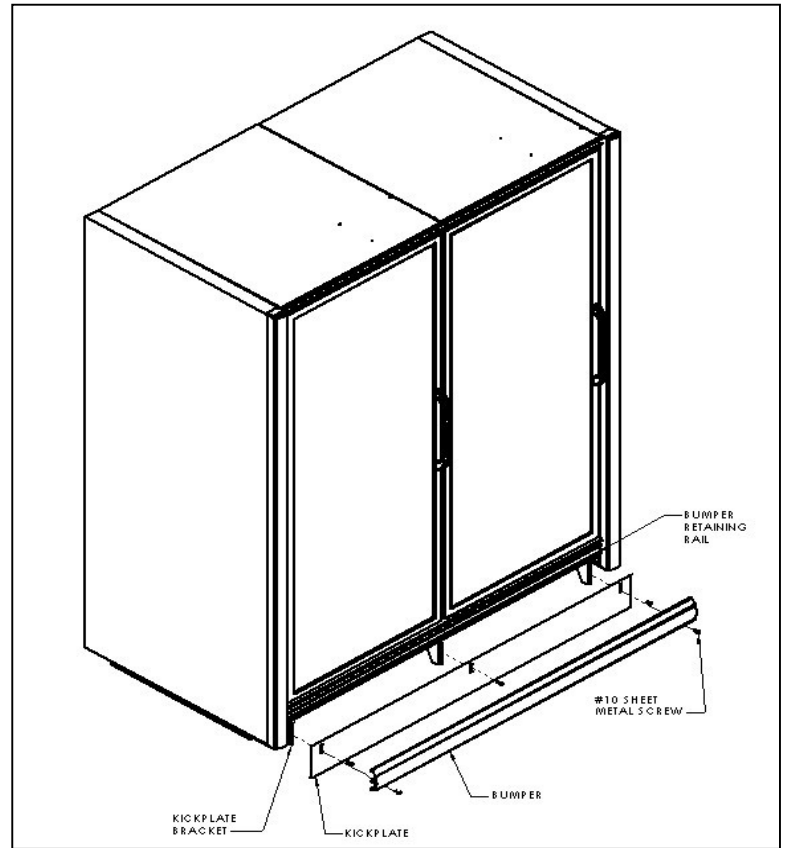
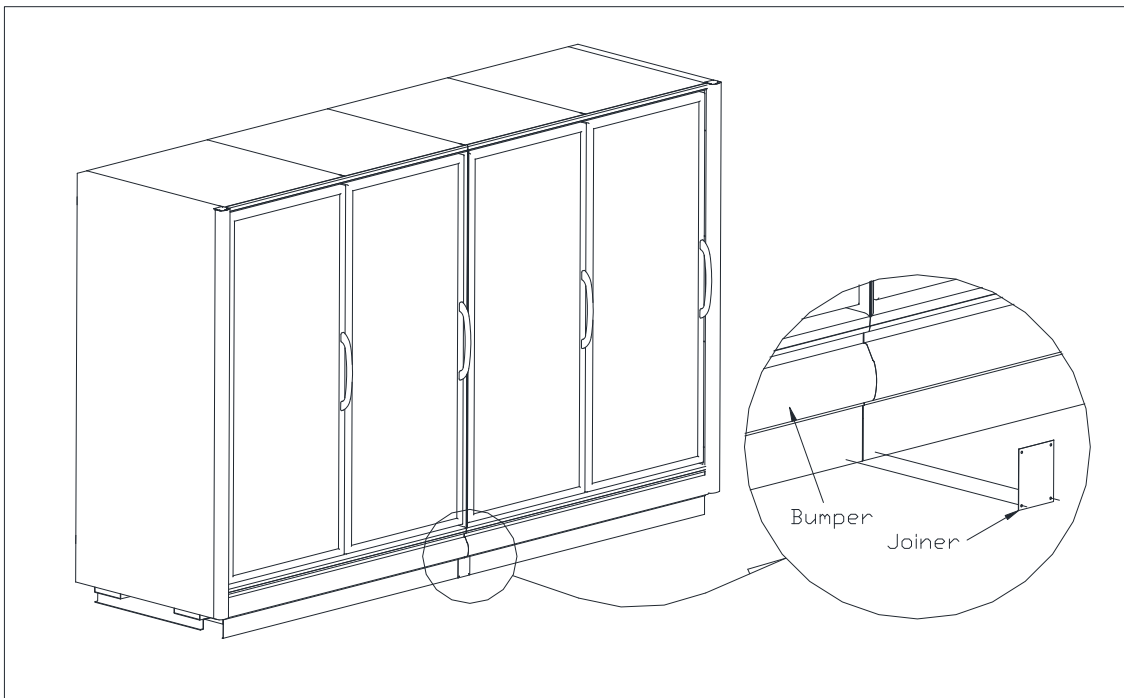

Figure 4 – Kickplate installation
Figure 5 – Kickplate joiner details
Install the kickplate behind the bumper and in front of the kickplate bracket. Secure the kickplate first by attaching it to the top pre-drilled holes of the kickplate brackets using the supplied #10x3/4" sheet metal screws. Then install the bumper by placing the top in the retaining rail and placing sheet metal screws through the bottom pre-drilled holes of the bracket. Refer to **Figure 4** for the placement of the kickplate.
To install the kickplate joiner, first make sure that the bumper is removed. Attach the kickplate retainer with the (2) #10x3/4" self-drilling sheet metal screws provided with the kit as shown in **Figure 5**. Reattach the bumper onto the bumper retaining rail and attach with screws as shown in Figure 4.